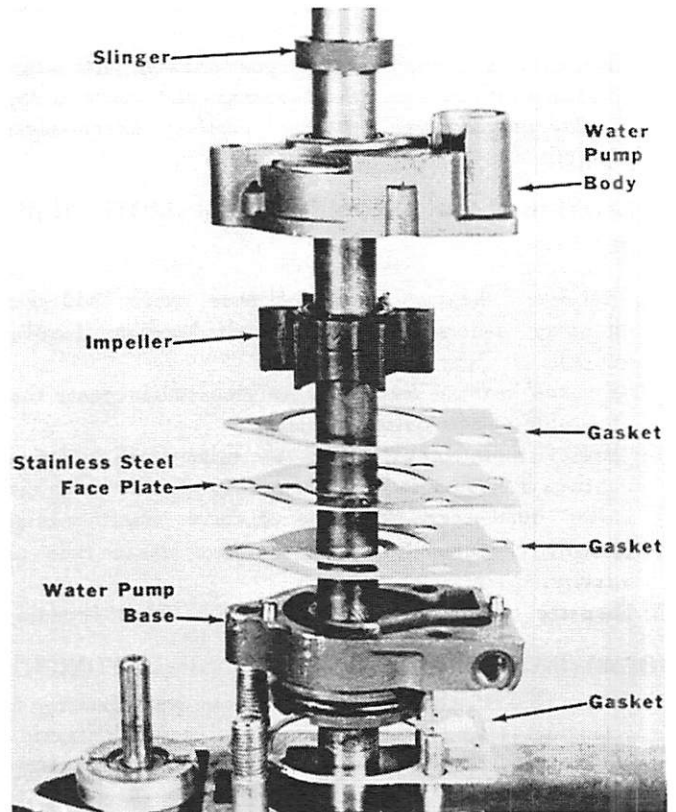

Figure 6. Removing Water Pump Assembly
4. Remove water pump insert, impeller and impeller pin along with water pump body, gasket, water pump face plate and gasket face plate to gear housing and oil seal. (Figure 6)